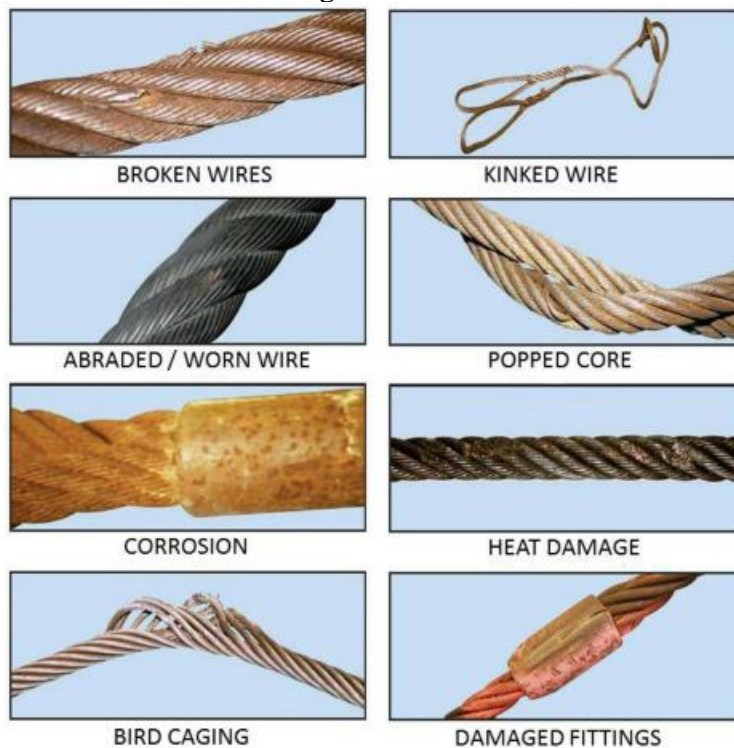

Figure 3 Examples of Wire Rope Slings Requiring Removal from Service
12. Wire rope slings shall not be used without affixed and legible identification markings as required by subsection (g)(1) of Cal-OSHA Title 8 Section 5045.
13. Wire rope slings shall be immediately removed from service if any of the following conditions are present (see Figure 3):